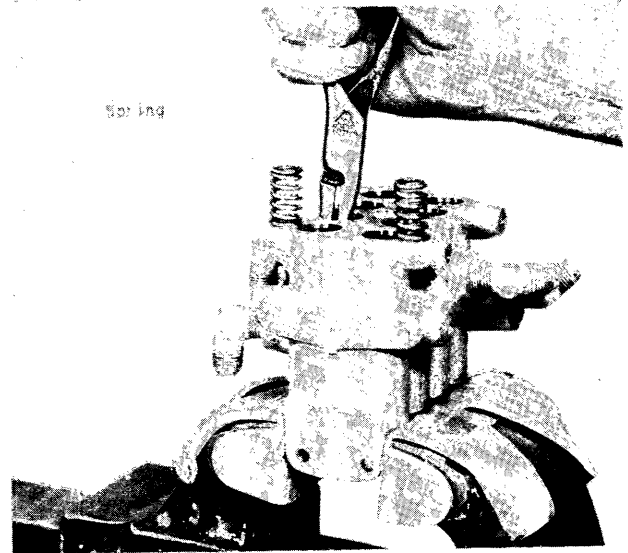

Figure 135 - Removal of Valve Springs
(9) The valve springs may now be removed from the valve body with a light pair of pliers. (See figure 135.) Be very careful not to score the valve cylinder surface with the pliers or spring.